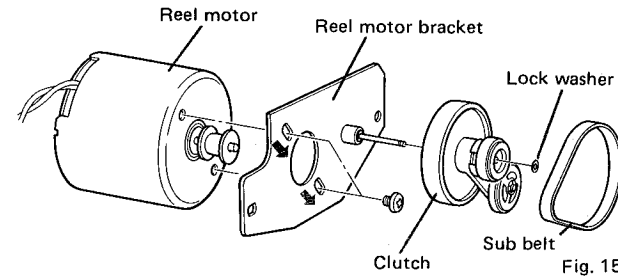

Fig. 15
2. When assembling the reel motor, make sure to assemble it by moving in the direction of an arrows as shown in Fig. 15.